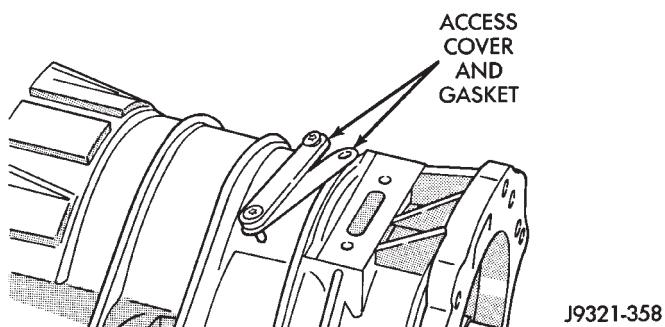

Fig. 202 Access Cover And Gasket Removal/Installation
(4) Remove access cover and gasket (Fig. 202).